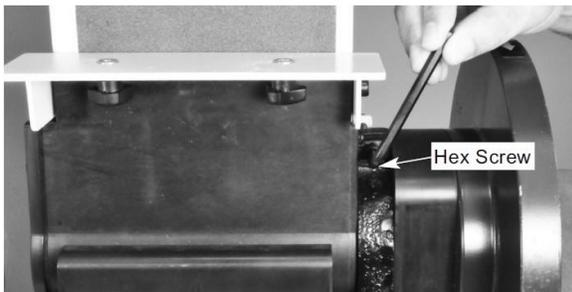

Figure 10
1. Loosen the hex screw that pulls the split casting together. This will allow the sanding belt frame to be moved to the desired work angle. See Figure 10.